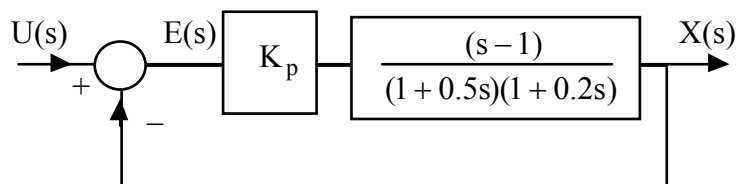

Figure 3.1. Block diagram of the system controlled by a P-only controller.
- (c) The system is placed in a unity negative feedback loop. The system is controlled by a P-only controller, as shown in Figure 3.1. Note that it is a class zero system.